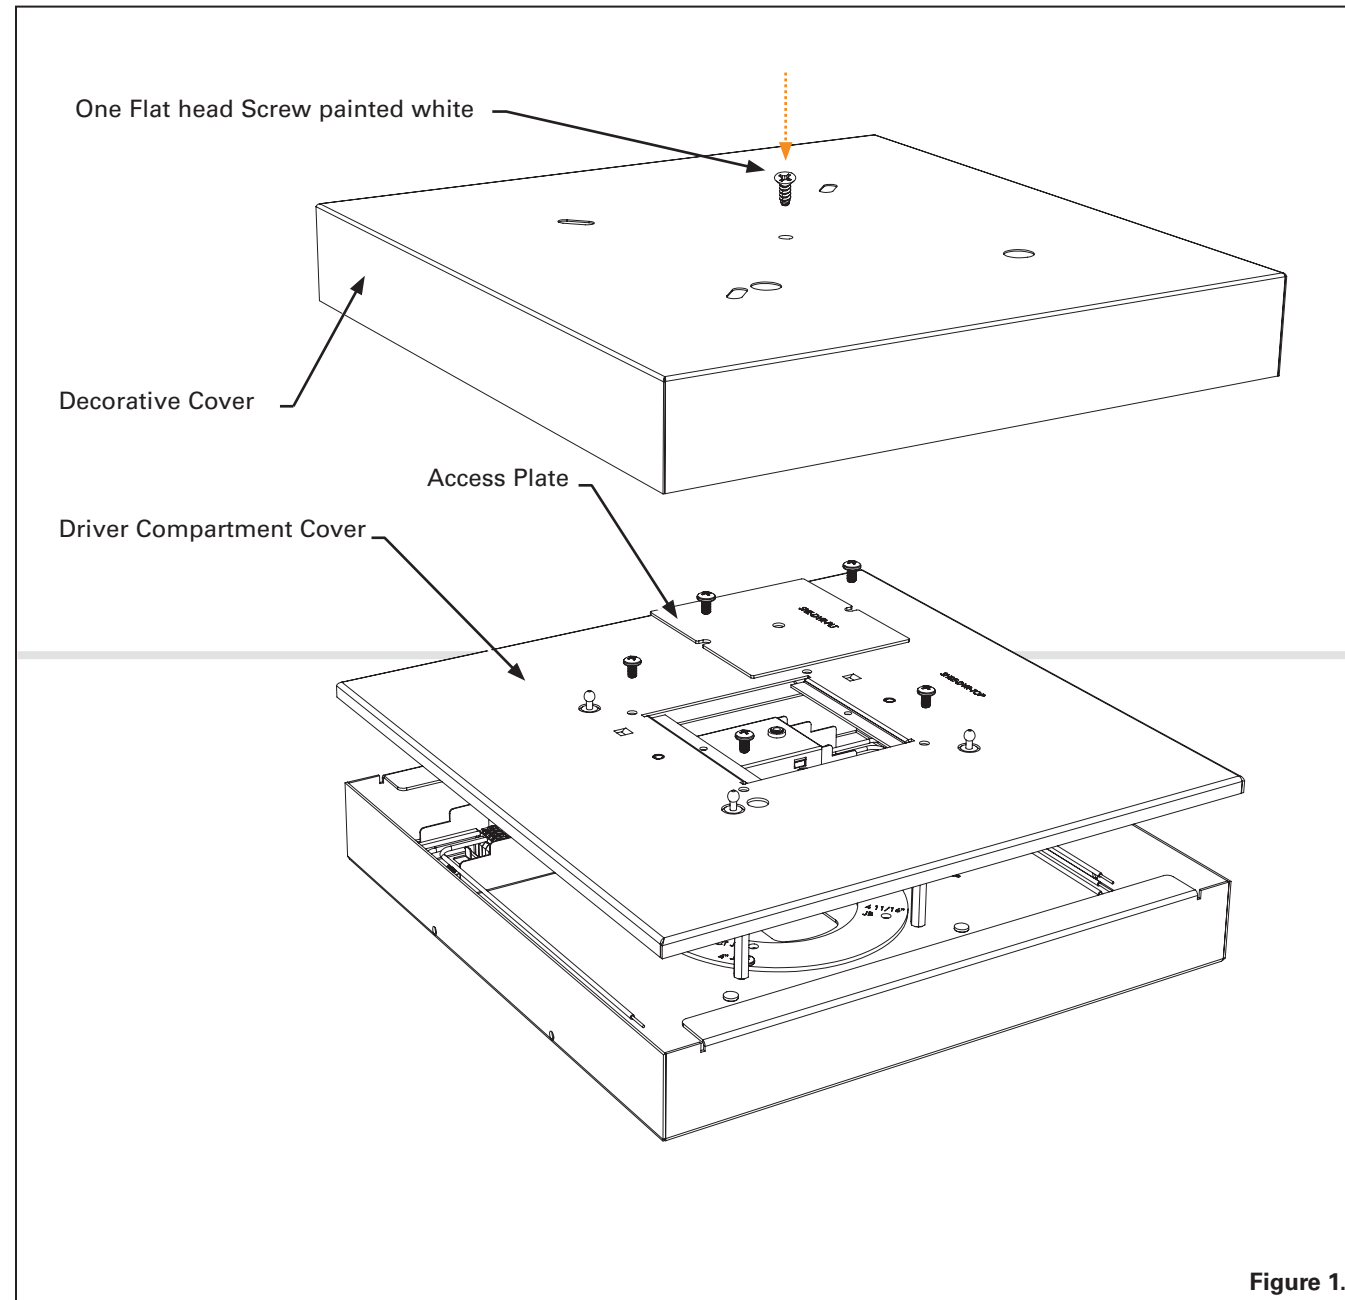

Figure 1.
Step 1. Remove the Decorative Cover, Driver Compartment Cover and the Access Plate. Set qty six #8-32 screws aside for reattachment. Ref. Figure 1.